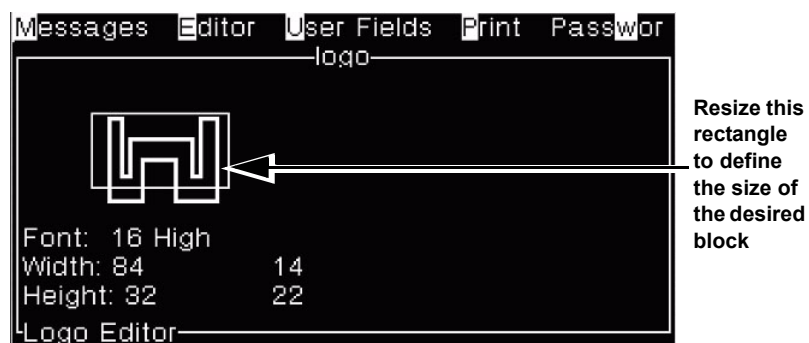

Figure 5-30: Block Editing Function
- 3 Press Enter to see a rectangle appear in the Logo Editor, which indicates the outline of the block to be selected (Figure 5-30).